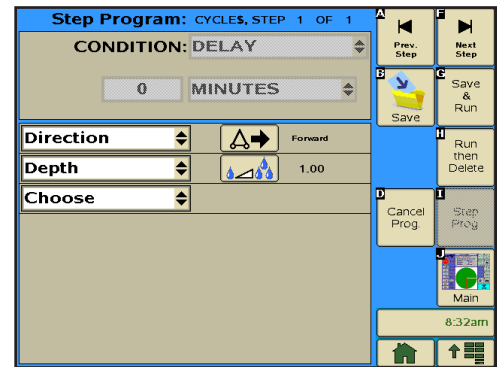

Figure 177-2
5. Enter the commands to be executed. Refer to Figure 177-2.